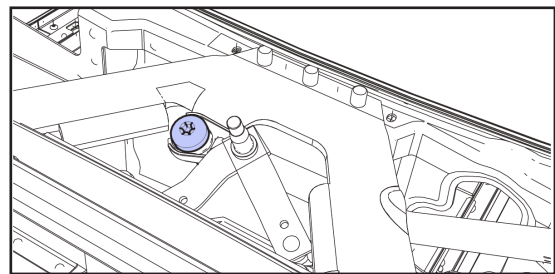

fig. 9d
- d. Remove screw securing wiper motor to bulkhead brace. Torque - 25 Nm (fig.9d)
- e. Remove bulkhead brace (fig.9d)